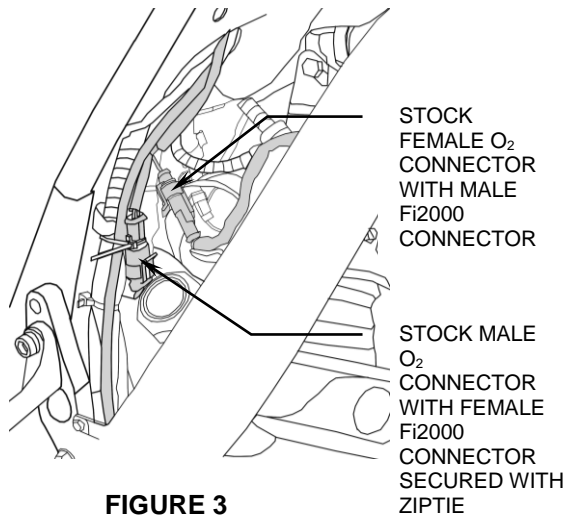

FIGURE 3
6. It is now time to install the oxygen sensor harnesses. In the open area where the Fi2000 module has been placed you will see a round hole (approximately 1" in diameter), in the lower area of the frame. Feed the two O₂ sensor harnesses through this hole. Above the transmission on the right side locate the stock rear O₂ sensor connection. Unplug this and plug the corresponding Fi2000 connectors from the shorter Fi2000 O₂ sensor harness into these connectors see Figure 3.